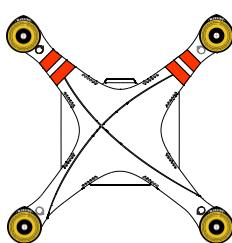

Figure 2-1
- ( Figure 2-1 ) Remove the four warning cards from the motors after you've read them.